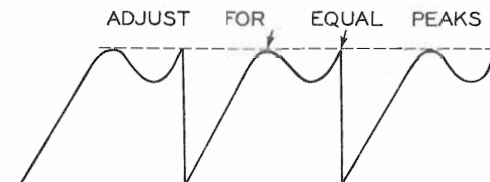

FIG. 7
- (A) The picture should remain stable throughout complete rotation of the horizontal hold control on strong and medium signals.
- (B) The picture should remain stable through 1/2 to 3/4 rotation of the horizontal hold control on weak signals.
- If the picture jitters, bends or loses sync while making the checks in (A) or (B) horizontal sync adjustment should be made as outlined in the following steps:
- (1) Set the DX range finder to "0" position and adjust the contrast control for normal picture.
- (2) Connect the high side of vertical amplifier of oscilloscope thru a 10MMF capacitor to terminal "C" of L20. Connect low side to chassis.
- (3) Adjust the horizontal waveform slug (B2) for waveform similar to Fig. 7. Keep the picture in sync while making this adjustment by turning the horizontal frequency slug (B1) or the lock range trimmer (B6). (Later model sets do not have a lock range trimmer). Remove the scope.
- (4) Turn the horizontal hold control maximum counter clockwise. If picture does not lose sync switch off channel and back again or adjust B1 until 4 or 5 bars appear sloping downward to the left.
- (5) Turn the horizontal hold control slowly clockwise until picture falls into sync. If set has horizontal lock range trimmer it is properly adjusted if 2 or 3 bars are present. Turn the horizontal hold control fully counter clockwise and adjust B1 until picture falls into sync.
- (6) If more than 3 bars were present in step 5 turn the lock range trimmer (B6) slightly clockwise. If less than 2 bars were present turn B6 slightly counter clockwise. Repeat steps 4 and 5.